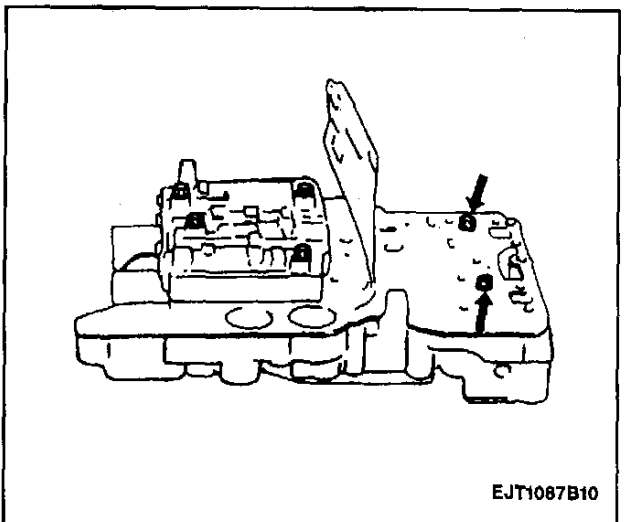

Figure 107—Removing Temporarily Installed Bolts (03-72LE, 4-Speed)
6. Remove two bolts temporarily install in step 1 (Figure 107).